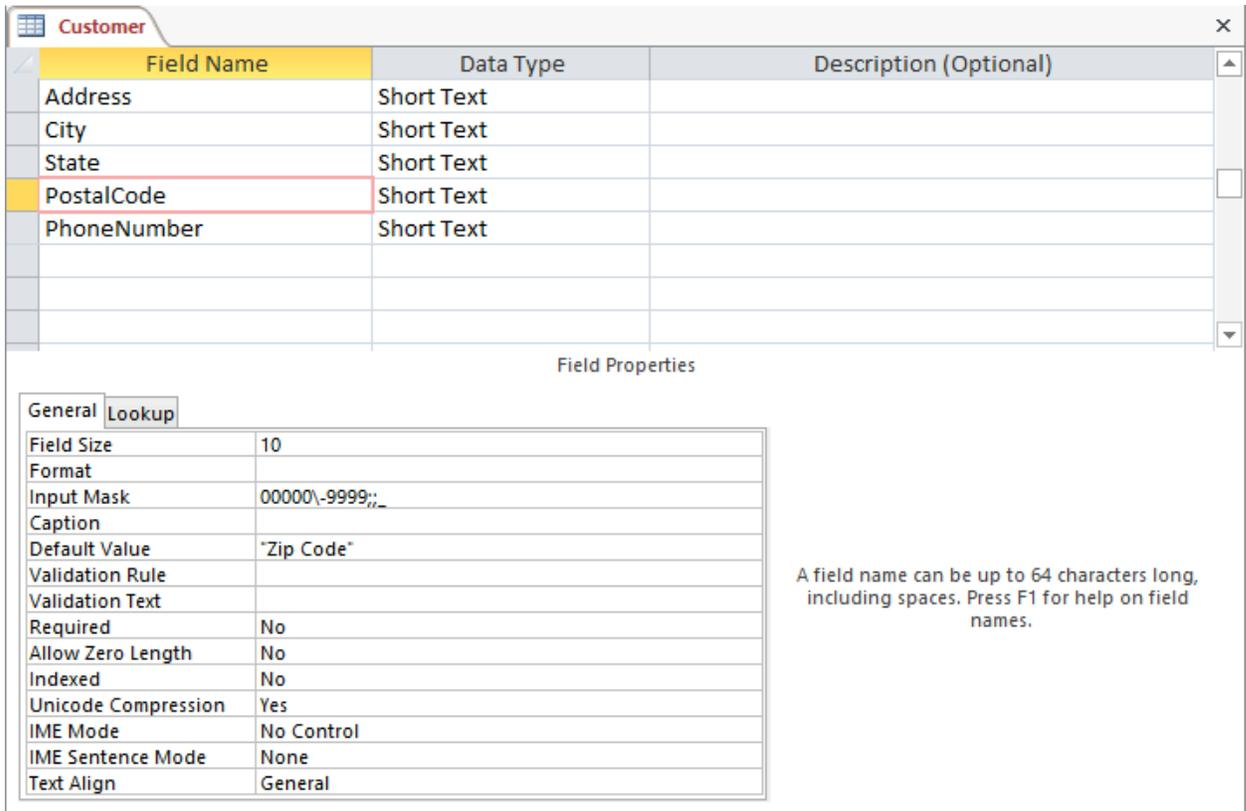

Figure 11: Design View Window for the *Customer* Table
7. After finishing the Input Mask Wizard, you can view the *Input Mask* property as shown in Figure 11. You can customize the value of the *Input Mask* property by typing in the text area. You will want to read the help documentation (type the **F1** function key while the cursor is inside the text area of the *Input Mask* property and enter “input mask” as the search string) to learn about the details.
9. Your completed table should appear as in Figure 11. Since you have already named and saved the table, you can close the table by clicking on the **Close (X)** button of the Design View window. Click **Yes** when Access asks you if you want to save your changes.